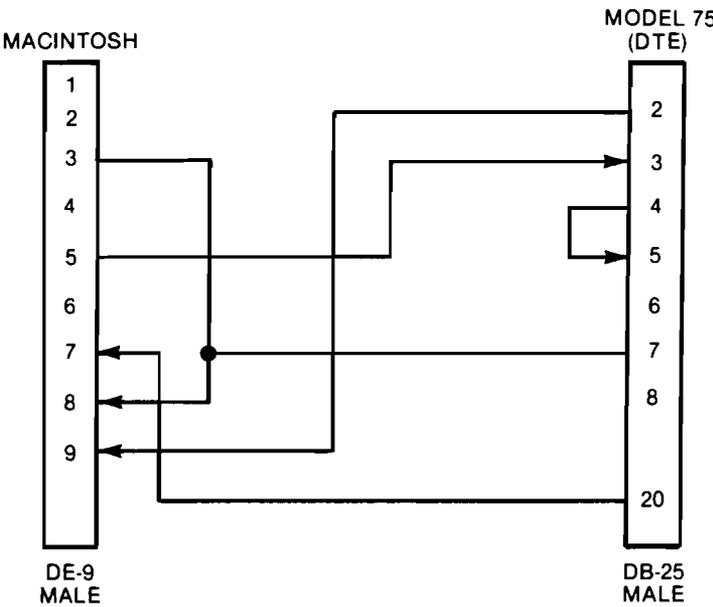

Figure 2-9. Typical Examples of Serial Cables
2. In most cases a straight through cable can be used to connect the Model 75 with the other device. The Model 75 only requires the connection of pins 2, 3, 5, 7, and 20 but the other device may require more. Examples of typical cable assemblies are shown in figure 2-9. However, there are many interpretations of the RS-232-C standard and either of the following procedures (a or b) should be used to ensure that the control and handshake signals are properly connected.